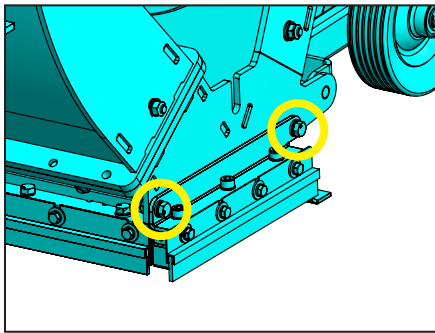

FIG. 26A
## EDGE BLASTING (FIGURES 26A-26C)
1. Remove the brush and magnet assembly from the right side of the machine (Figure 26A).